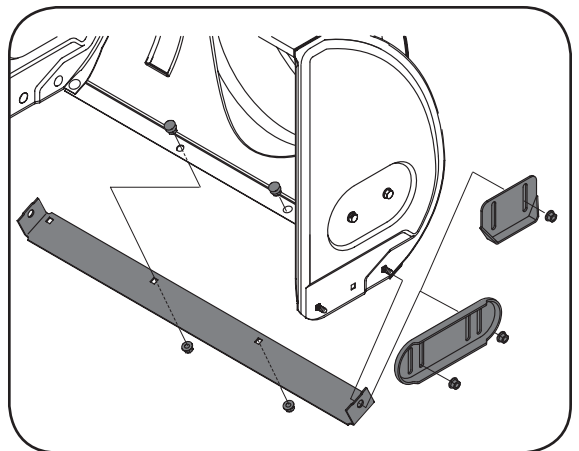

Figure 19
2. Reassemble new skid shoes with the four carriage bolts (two on each side) and hex flange nuts. Refer to Figure 19.